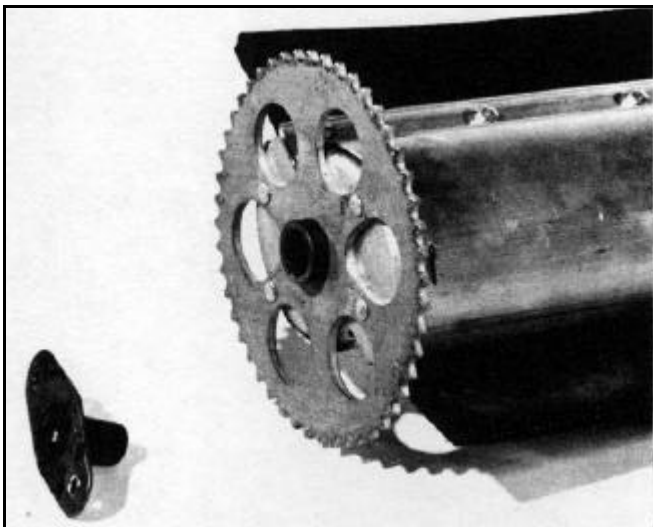

Figure 118
5. Next, remove the rotor shafts from the rotor bushings at the impeller sprocket end cap and the right hand end cap (Figure 118).